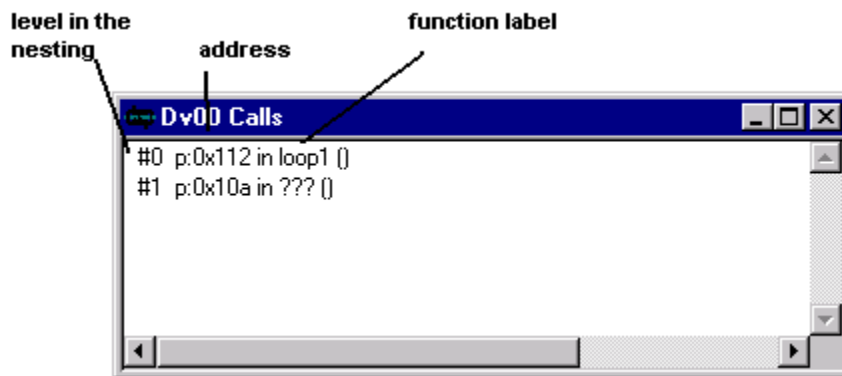

Figure 8-4. Monitoring C Function Calls
1. From the **Windows** menu choose **Calls**. The dialog box in Figure 8-4 appears.